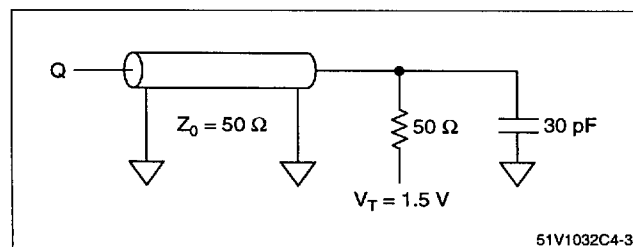

Figure 3. Output Load Equivalent
1. Test conditions as specified with the output loading as shown in Figure 3 unless otherwise noted.
Output Load	See Figures 3 and 4